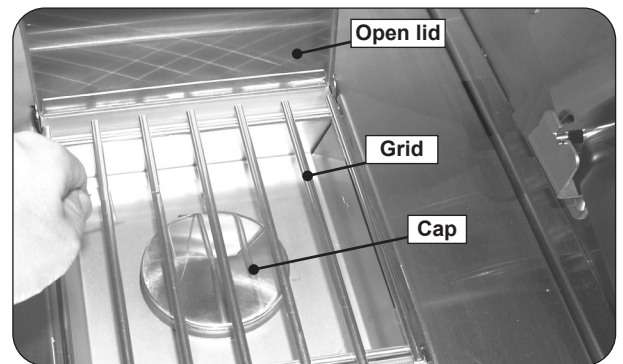

Fig. 27-2 Place burner cap and grid
5. Place the burner cap on top of the burner, as shown in Fig. 27-2.
6. Place the grid so that it rests on the front and back lips of the sideburner opening (Fig. 27-2).